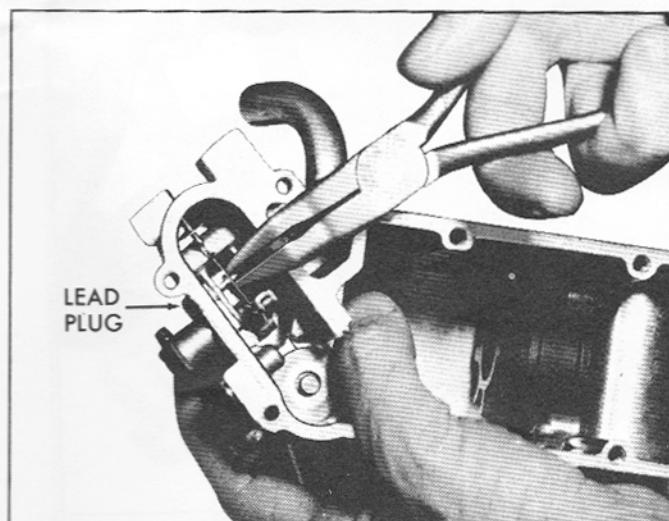

Fig. 58—Removing Control Arm Axle Shaft
- Rotate control arm and counterweights on axle until axle shaft is exposed. Press axle from meter body using long nose pliers (fig. 58). Remove control arm and counterweight assembly from fuel meter body.